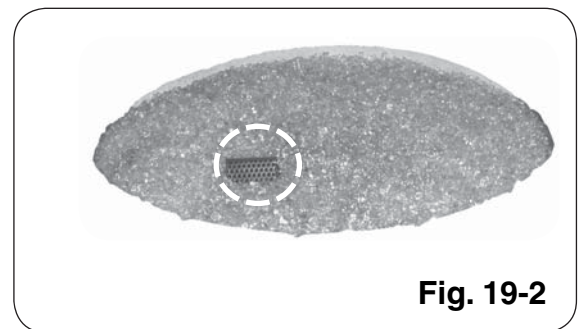

Fig. 19-2
1. Pour the glass/gems out of the bag(s), evenly covering the lava but not the screen (Fig. 19-2).